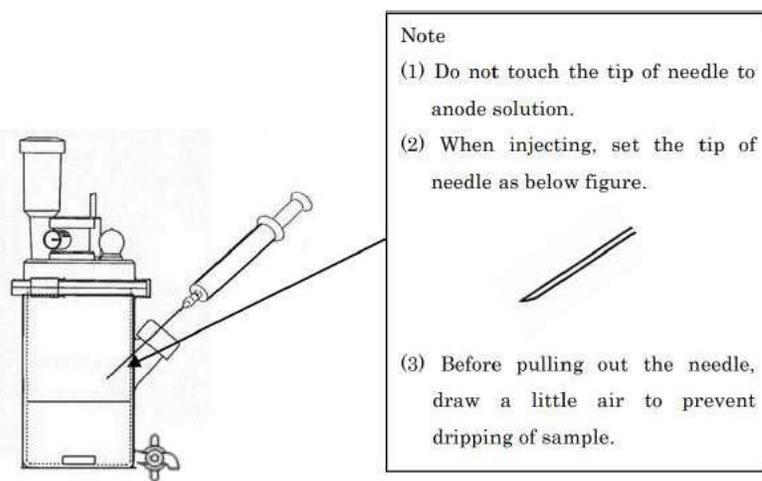

Fig.3.2. Injection of sample.
(3) Wash the syringe with sample.
(4) Draw the sample into syringe and then weigh the syringe.
(5) Inject sample from rubber septum of electrolytic cell as shown in Fig.3.2.
(6) Start titration. Measurement parameter is shown in Table 4.1.
(7) Weigh the syringe again and then set the difference of weight to sample size.